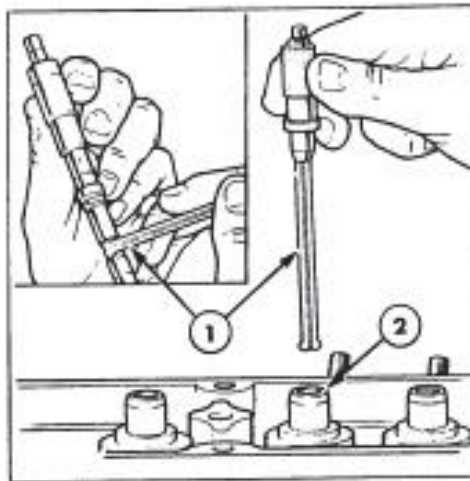

Fig. C2.41 Measuring the Valve Guide Bore
2. Measure the valve guide bore diameter by using bore gauge as shown in the figure C2.41